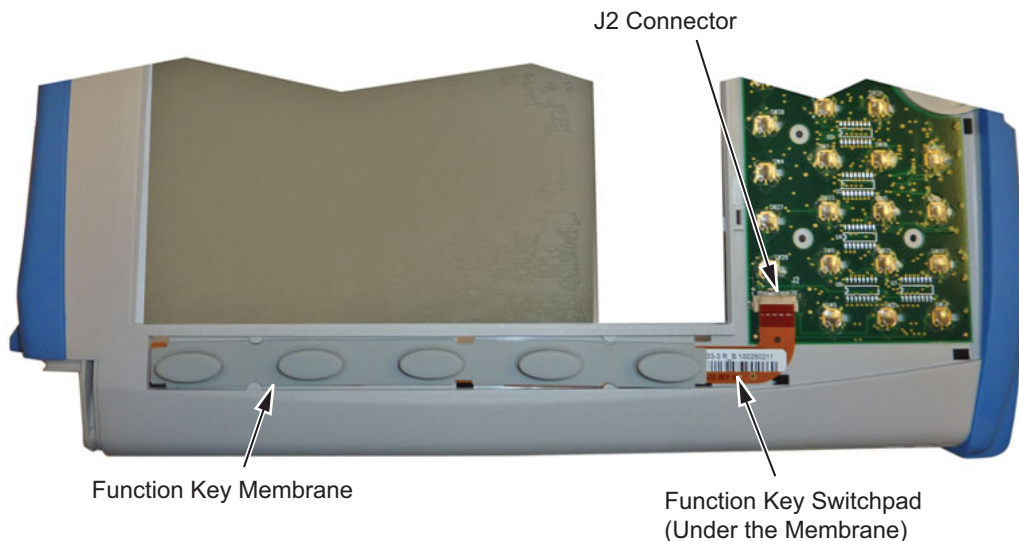

Figure 7-11. Keypad PCB
- Disconnect the function key flexible switchpad from J2 of the keypad PCB by carefully lifting the locking tab on connector J2 to release the flexible switchpad (Figure 7-11).